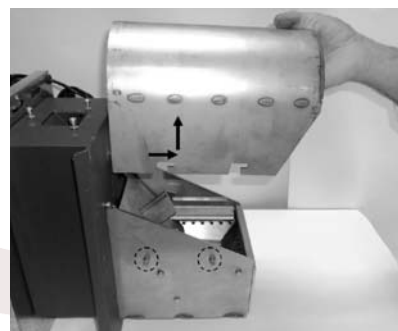

Figure 11-12: Removal of burner hood
- To operate the switch and release the motor, either press and hold down the switch down or lift and hold the switch up – depending on motor type used. Refer to Figure 11-12.